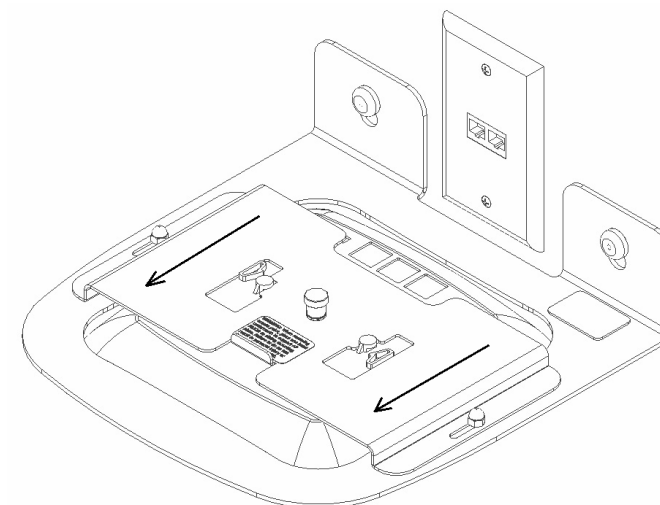

Figure 3
Step 5 – While gently pushing the AP225 access point against the mounting plate, slide the mounting plate away from the wall until the plunger falls into place, locking the access point (Ref figure 3).